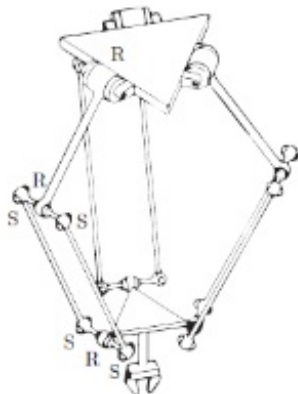
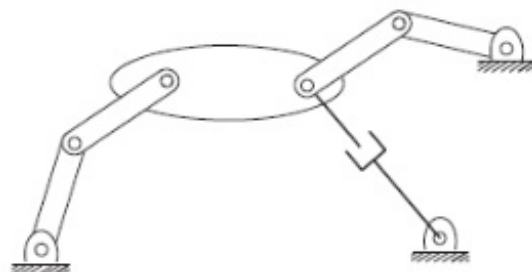

Figure 1
Figure 2
- B) Write a short note on classification of robots with relevant example. (8)
- C) Describe on the essential characteristics which a robot should possess with the help of a neat block diagram. (6)
- 2) Explain the following with a suitable example: (8)
- B) What is the need of sensors in a Robot? Describe on the working principle of three sensors which we use in a Mobile robots. (6)
- C) Define end effector and design an end effector to grasp materials like a bunch of paper, stone and Egg. (6)
- 3) Write down Grubler formula and identify the degree of freedom of the Figure 1 and Figure 2 using grumbler formula. (8)